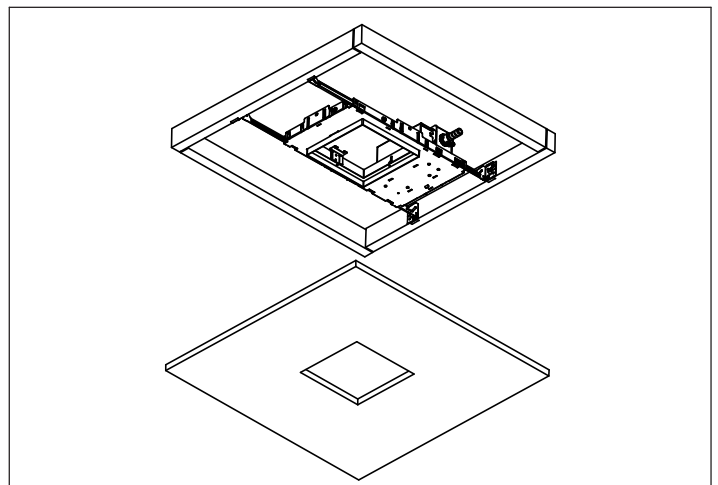

Figure 4
4. Make all necessary electrical connections in Junction Box and install Drywall with pre-cut dimensions. (Fig. 4)